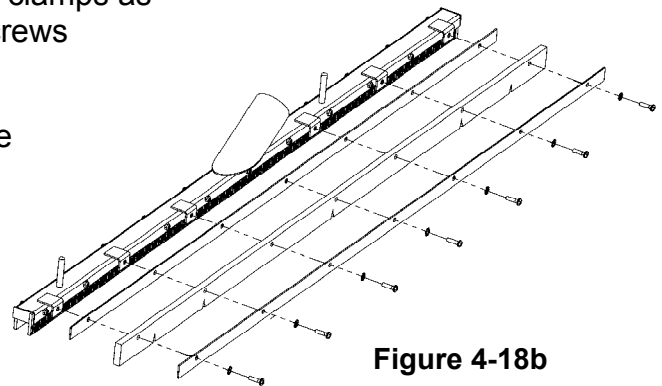

Figure 4-18b
4. Remove the seven #10 screws from the vacuum head to release the agitator foam and clamps as shown in Figure 4-18b, and set the screws aside.